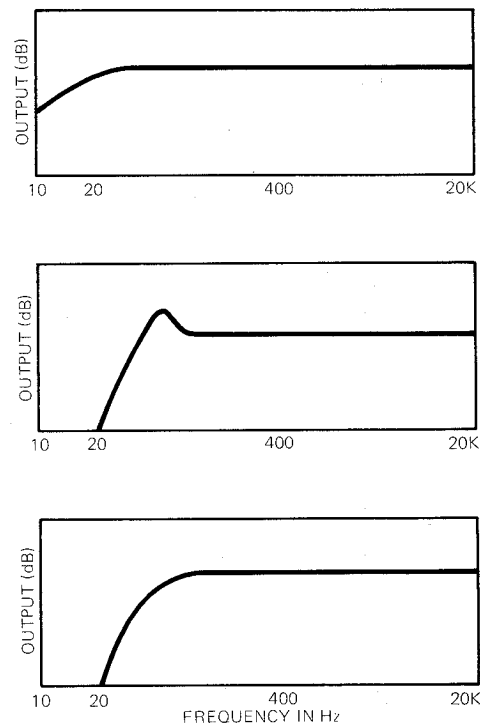

Figure 6. Bass Equalizer Characteristics
**2. SLOPE 'A'** This is the response which results when both Bass Equalizer Switches (8) are "out". See Figure 6 for a graphic representation of this setting. Slope 'A' is best suited for larger mini-speakers, such as the ADS 300C system. The slight rise at the lowest frequencies creates the subjective impression of deeper bass response while the sharp cutoff protects the woofers from "bottoming" on subsonic transients.
**3. SLOPE 'B'** To set the Power Plate for this response, the left-hand Bass Equalizer Switch (8) must be "out" while the right-hand switch is "in". Figure 6 illustrates the effect of Slope 'B'. This setting elicits the best overall performance from smaller mini-speakers, such as the ADS 200C system. A sharp subsonic filter protects the woofers from damage on low-bass information and ensures maximum linearity and clarity over the speaker system's usable range.